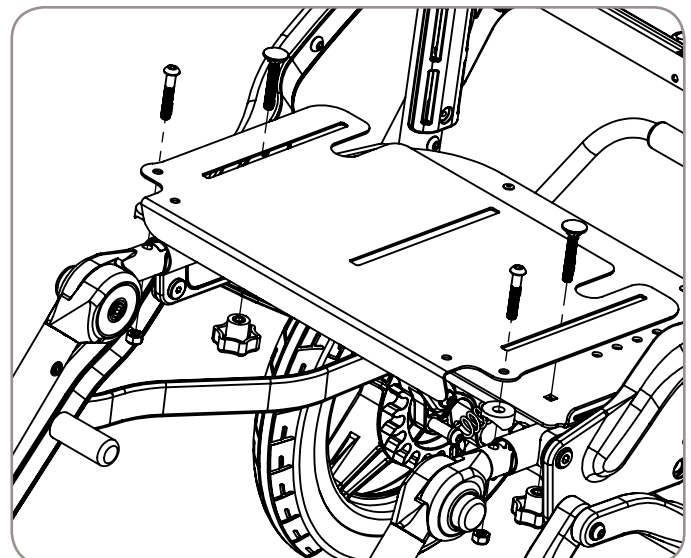

Figure 26
6. Reinstall seat plate as shown in Figure 26.